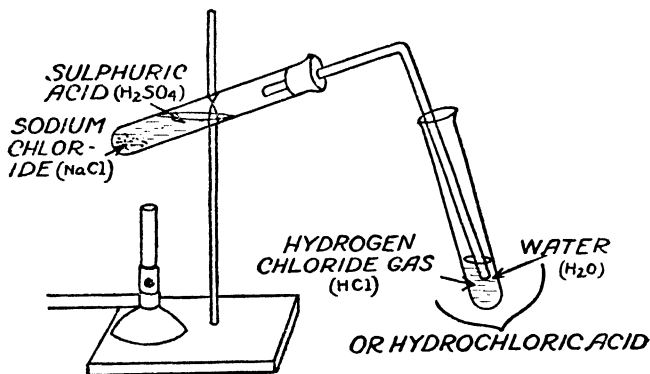

FIG. 29. APPARATUS FOR MAKING HYDROCHLORIC ACID
Fix one end of the bent tube in one of the test tubes with a cork; fasten the test tube to the stand, as shown in Fig. 29, and place the other end in the other test tube into which you have put a little water (H_2O). Now hold a Bunsen flame under the first test tube and there will be a direct union of the hydrogen (H) with the chlorine (Cl).